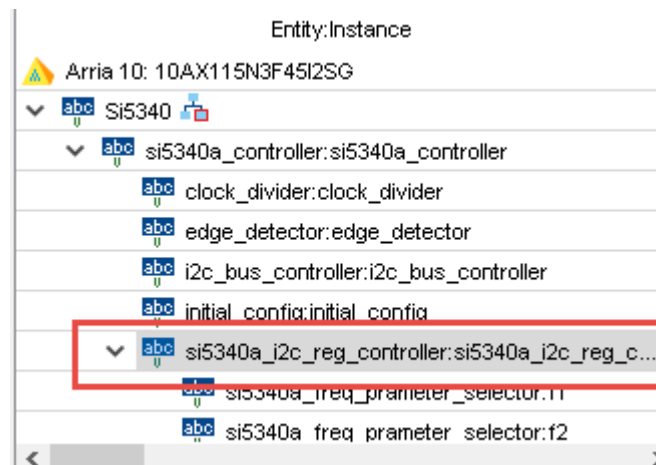

Figure 5-8 Sub-Module file "si5340a_i2c_reg_controller.v"
- Open Si5340 control IP sub-module "si5340a_i2c_reg_controller.v" as shown in **Figure 5-8**, refer Design Report parameter to modify sub-module corresponding register value (See **Figure 5-9**).